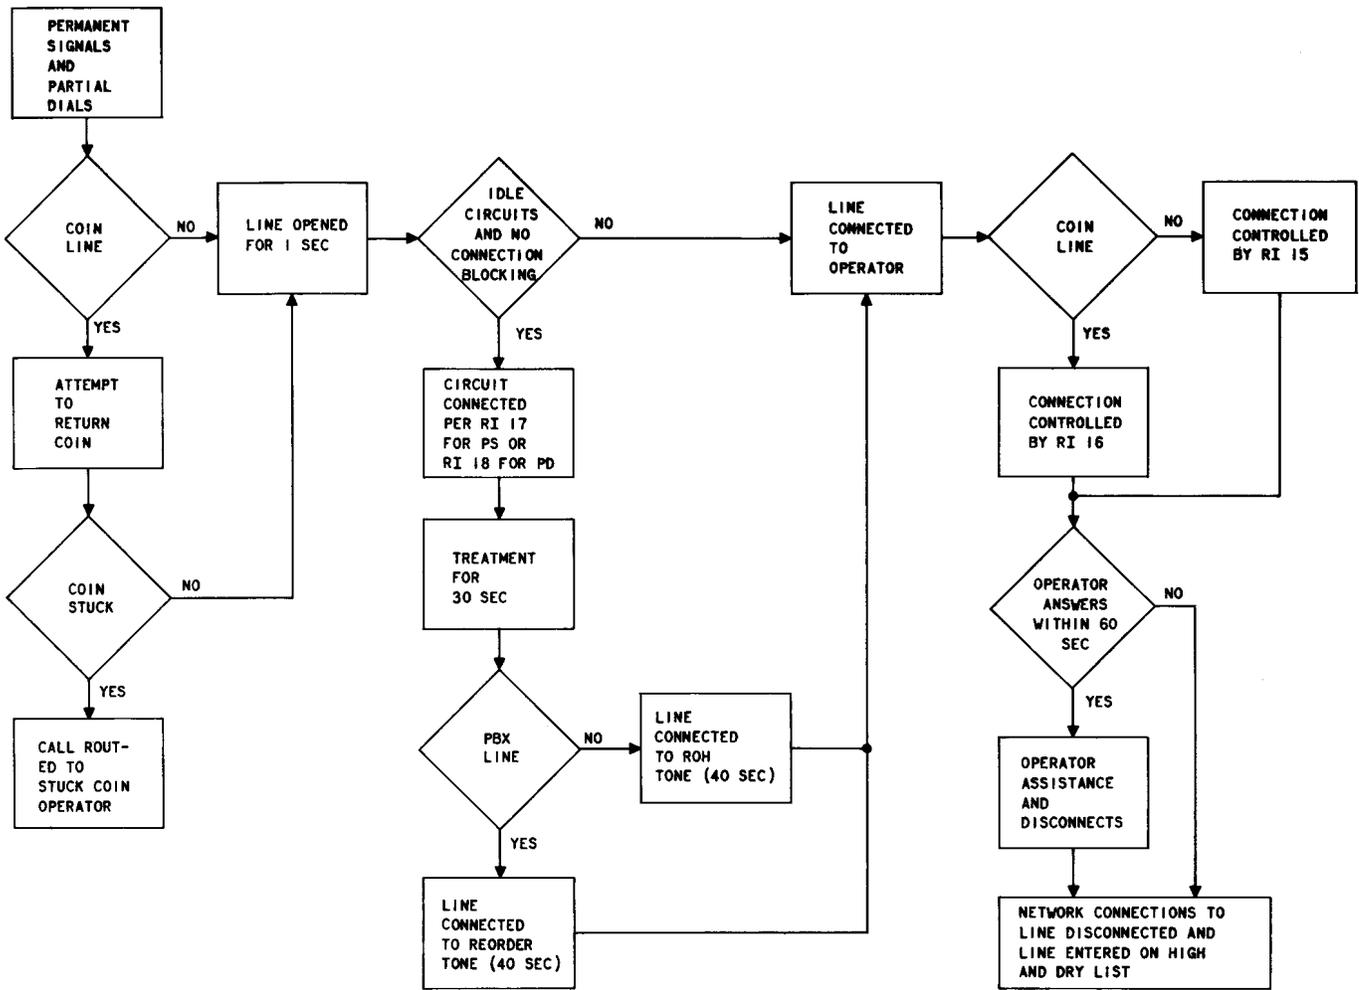

Fig. 1—Handling Permanent Signals and Partial Dials
2.02 The following steps are taken, in turn, by the program in an attempt to remove the permanent signal condition. Fig. 1 provides this program treatment in abbreviated flow chart form. If the line goes on hook at any time during the following treatment, the treatment is abandoned and the line is disconnected as if it were an ordinary line.